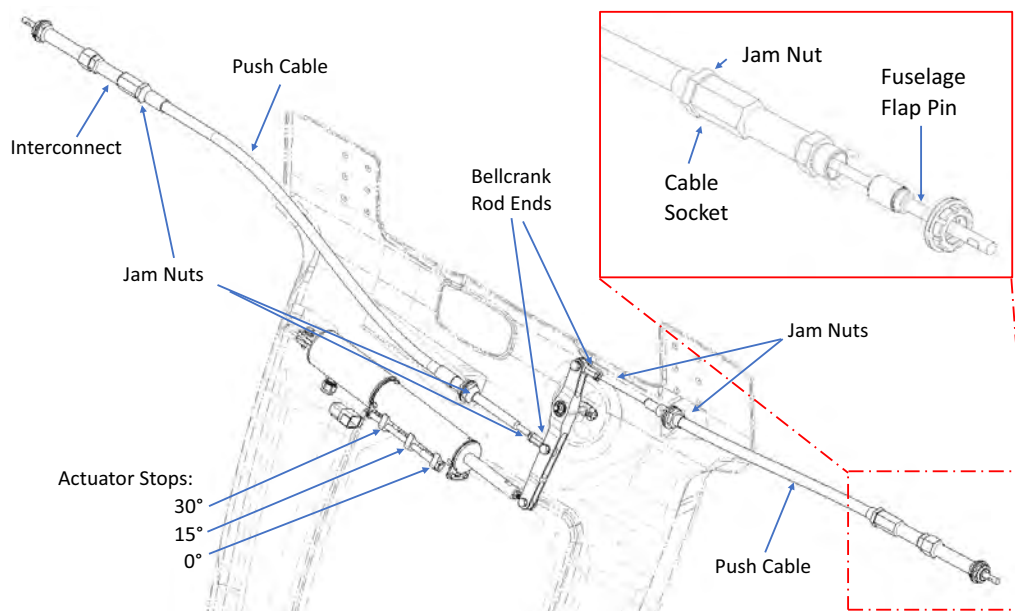
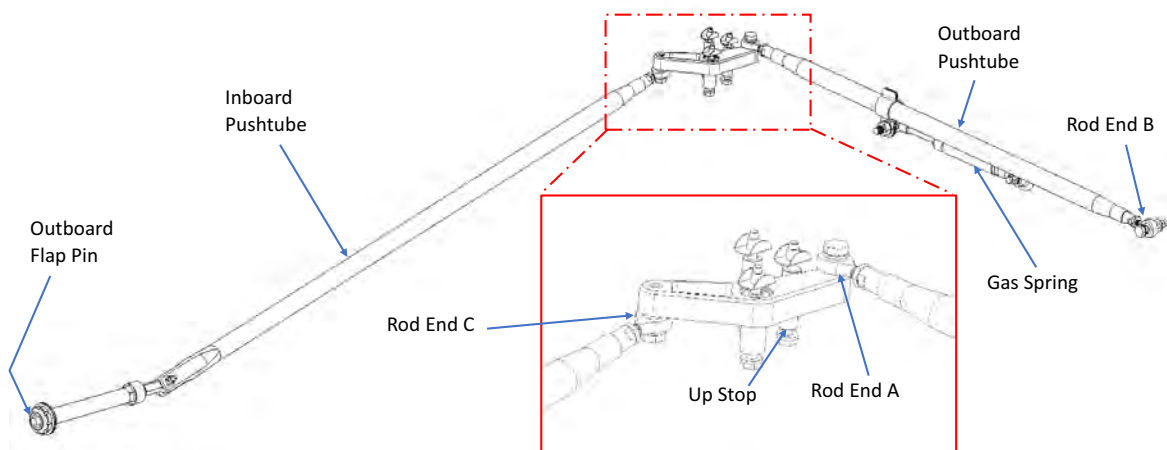

FIGURE 9-43
FIGURE 9-44
WARNING: *Wear safety glasses when installing helicoils. Figure 9-43 shows parts outside the aircraft, inside the aircraft installation orientation might be different for accessibility.*
3. Flap System Rigging Process. See Figure 9-43.
5. Adjust the outboard push tube. Adjust rod end A and B length equally such that the flap bellcrank contacts the up-stop and the flap trailing edge lines up with the trailing edge of the center wing as described in Figure 9-44. Refer to Figure 9-43 for actuator location.
- c. See Figure 9-43 for actuator stop locations. Actuate the flaps to 30° then back to 0°. Verify the flap returns to 0° due to the gas spring extension force. If the system does not return, adjust the 30° actuator stop to reduce range of motion. Ensure the flap travel limits are still within the tolerance specified in Figure 9-45.